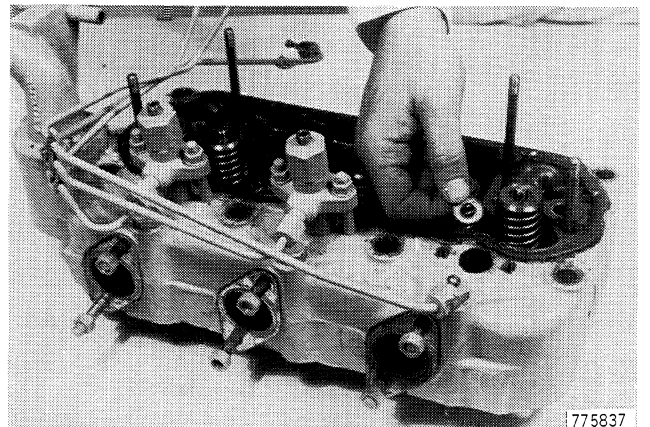

Figure 93
7. Remove the copper sealing washer from the head, Figure 93. The copper sealing washers can be retained by carbon and be hard to remove. Be sure the copper sealing washers are removed.